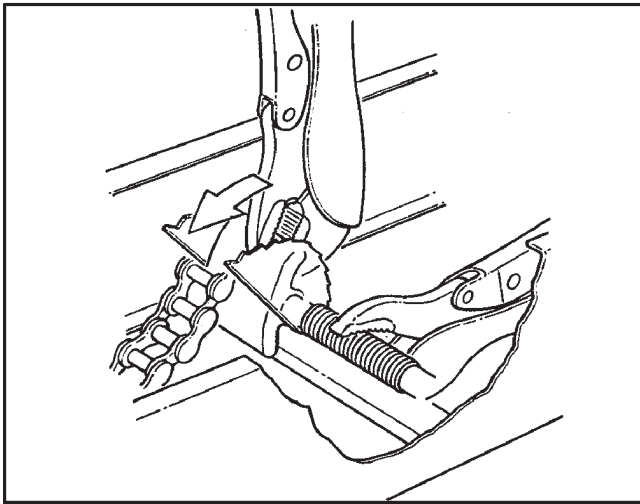

Figure 7-14. Prying the Slider Block off the Cam Assembly.
a Vice-Grip 10CR or similar plier as illustrated in Figure 7-14 and remove the drive chain.
3. With pliers, pry the slider block off the cam assembly as illustrated in Figure 7-14.